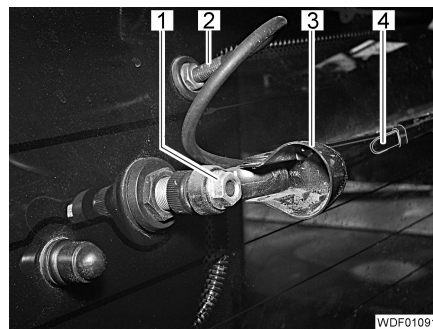

Fig. 490 Rear windshield wiper arm
- Pull off the hose (Fig. 490,2) of the windshield washer system.
- Fold the cap (Fig. 490,3) away from the fastening.
- Undo the nut (Fig. 490,1).
- Press the windshield wiper arm (Fig. 490,4) against the nut with a lever.